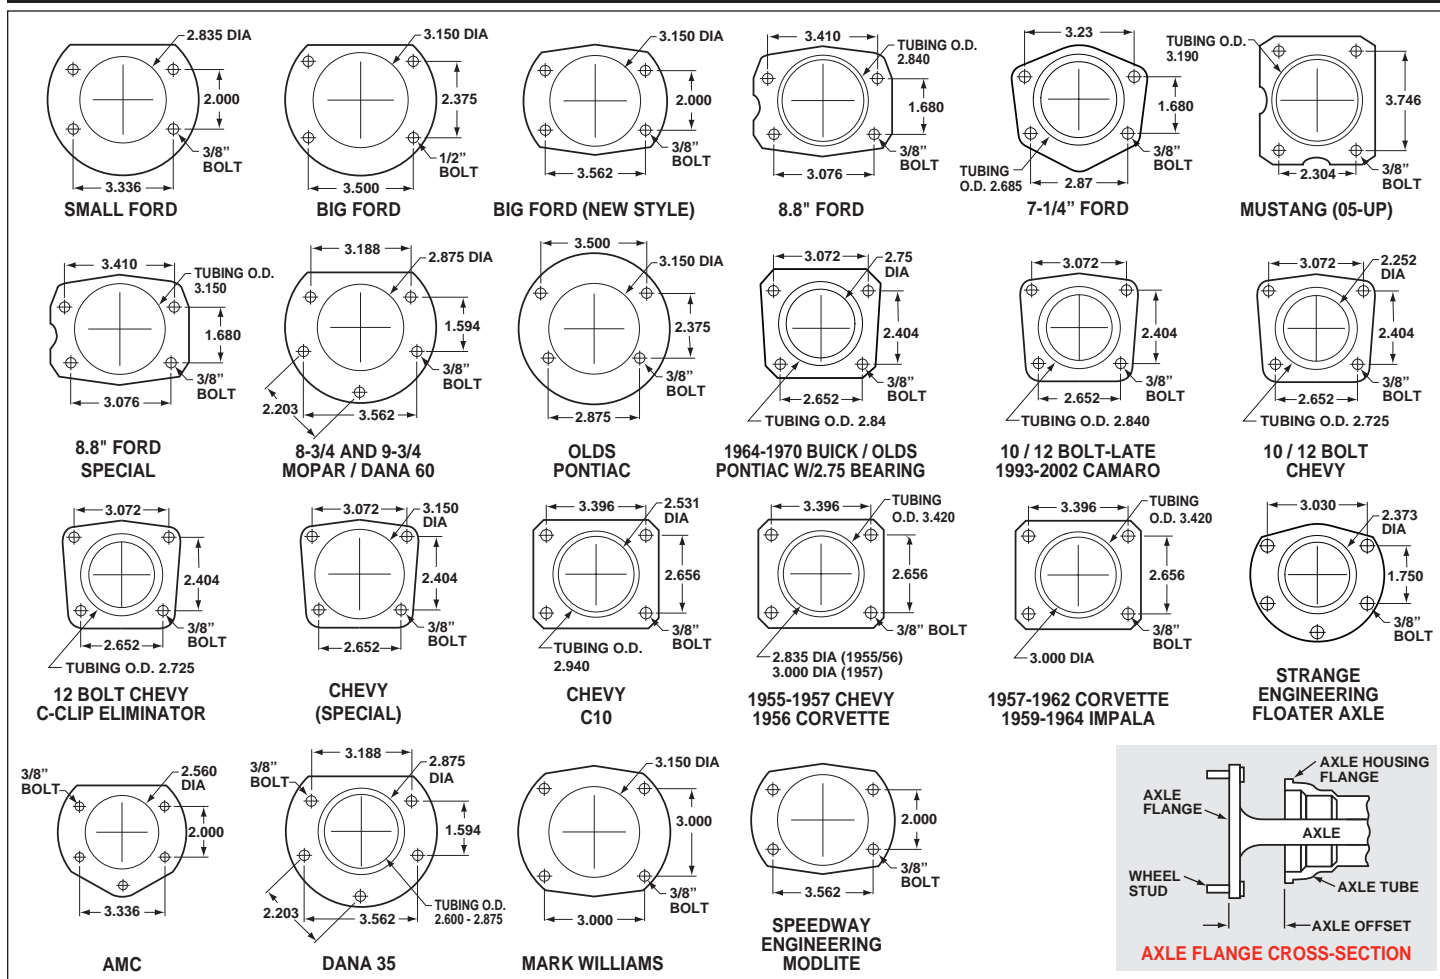

Figure 6. Rear Housing Flange Chart and Axle Flange / Offset Cross-Section
- Make sure this is the correct kit to fit the axle housing flange, not necessarily the rear end make. Many times after market manufacturers put a different make of axle housing flange on the stock rear end housing (see Figure 6). Example; Big Ford rear ends with Olds-Pontiac flanges, therefore, an Olds-Pontiac rear disc brake kit would be the correct kit to order. Also, shock clearance may be a problem. They may have to be modified and/or relocated to clear the Wilwood kit after final assembly.
Figure 6, lower right hand corner). This dimension is critical to ensure proper alignment of the rotor to the caliper, and should match offset given in the kit description.